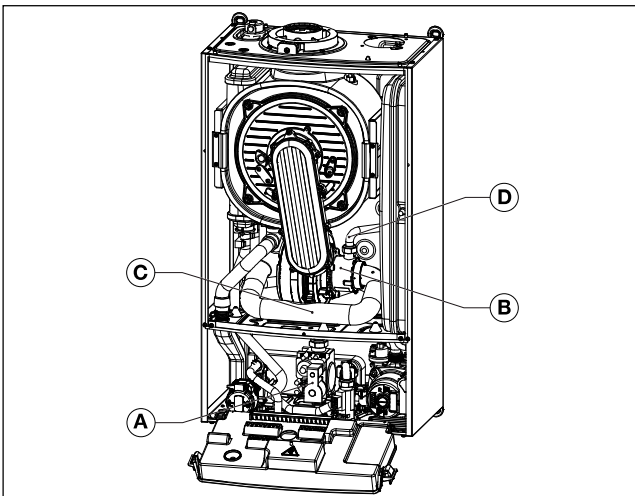

Fig. 26 Intake pipe
- Loosen the screw securing intake pipe to mixer, and remove pipe (see Fig. 26 Intake pipe).
- Disconnect the gas pipe from the mixer (see Fig. 26 Intake pipe).